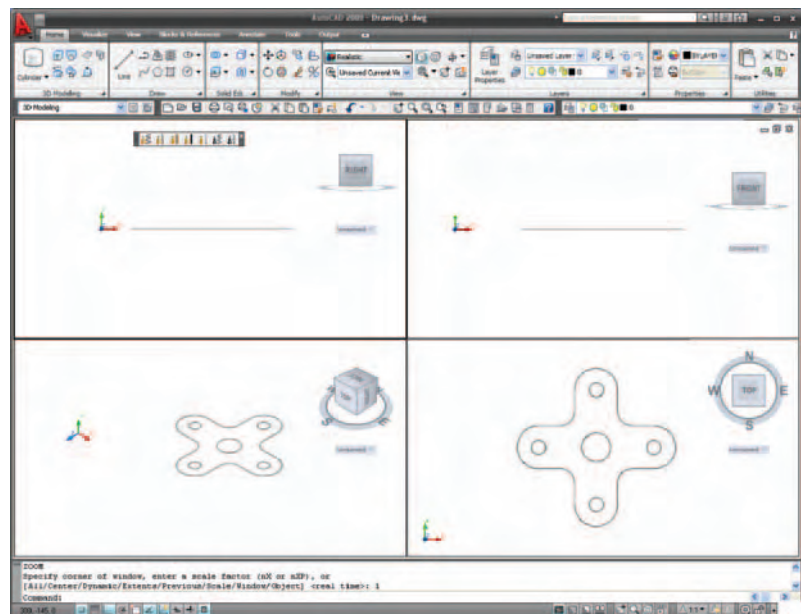

Fig. 13.5 The plan view drawn
3. Using the **Polyline** tool, construct the outline of the plan view of the plate of the support, including the holes in the **Top** viewport (Fig. 13.5). Note the views in the other viewports.